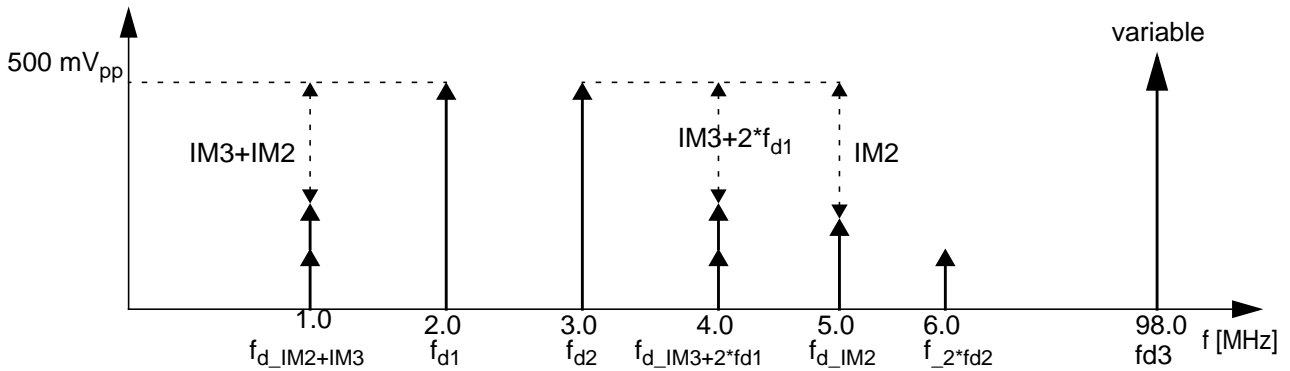

Fig.3 Baseband spectrum
- In baseband, the spectrum is shown in figure 3. It can be seen that on 1MHz IM2 and IM3 products overlap and on 4MHz the 2nd harmonic of f_{d1} and IM3.